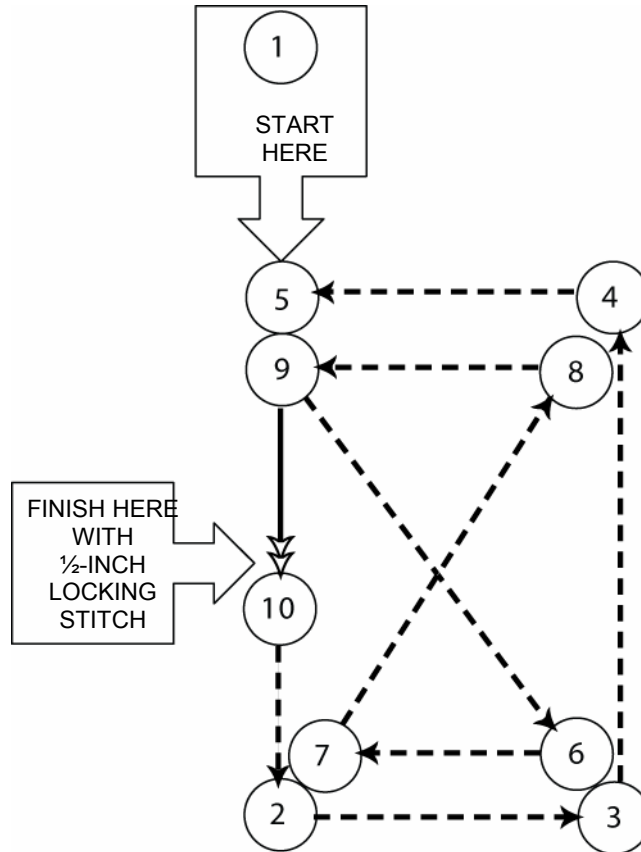

Figure 42. Box Stitching Pattern with Locking Stitch.
15. Box X stitch pattern with locking stitch will be used to secure the diagonal back strap keeper and diagonal back strap retainers to the main pack tray (Figure 42).
16. Using the following diagram (Figure 42), complete the Box X stitch pattern by starting in position one and follow the numbers in sequence, making a ½-inch locking stitch.